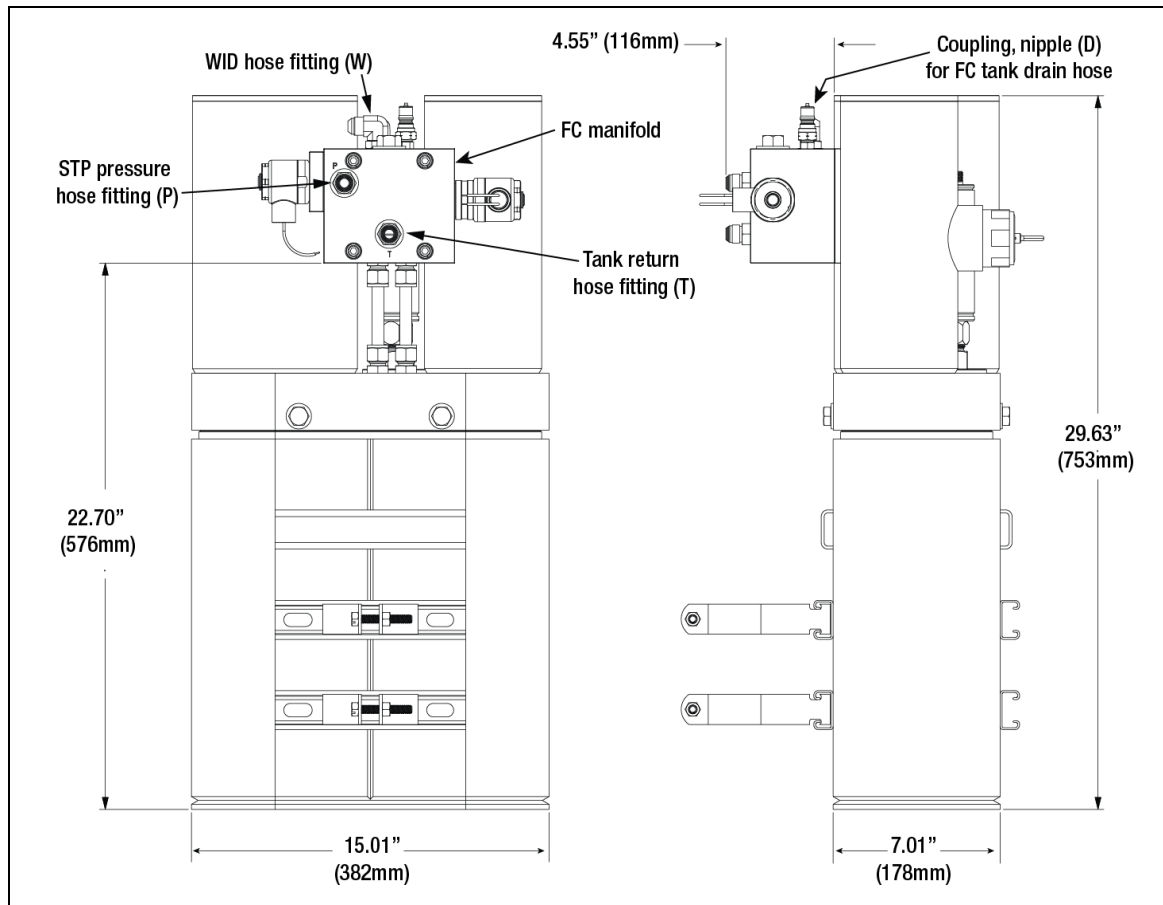

Figure 12. FC Dimensions
1. The dimensions of the FC are shown in Figure 12 and will require a minimum of 37 inches of vertical clearance (from manway to sump cover). This clearance must be confirmed when the HydrX site inspection is conducted prior to ordering the equipment.